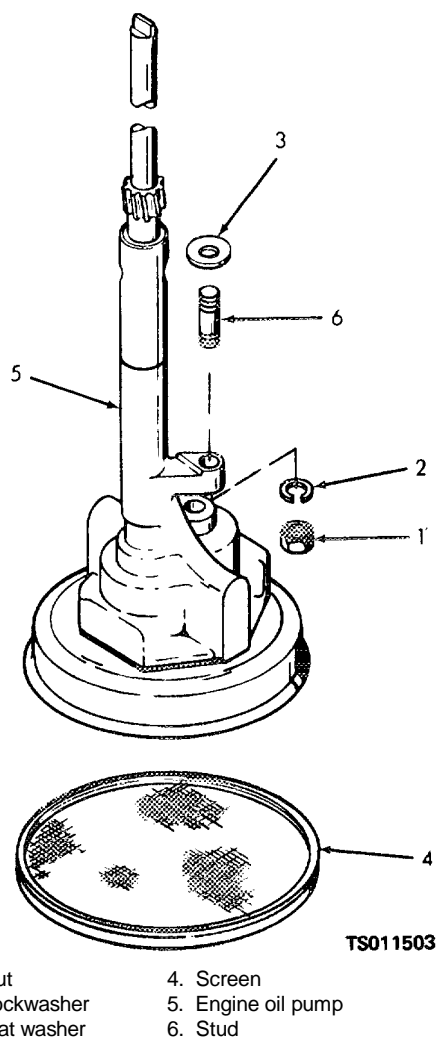

Figure 4-7. Engine oil pump installation.
(2) Remove the nut (1, fig. 4-7) and lockwasher (2) securing the engine oil pump to the bearing cap. Remove the oil pump and flat washer (3).
(3) Remove the screen (4) from the bottom of the oil pump (5).
(1) Install the screen (4, fig. 4-7) on the bottom of the oil pump (5).
(2) Position the washer (3) and oil pump (5) on the main bearing so that the drive gear engages the toothed portion of the camshaft. Secure the pump with the nut (1) and lockwashers (2).
(3) Install the oil pan (para 4-5).